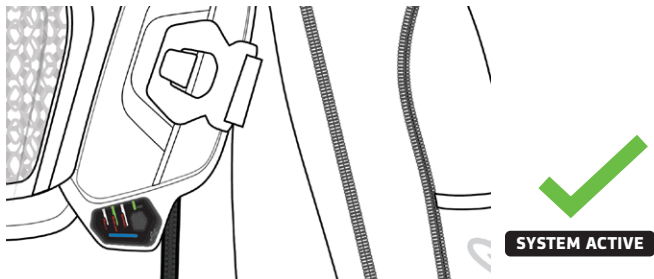

Figure 10: System active and correctly working;
2) After the LED Check phase, the System will automatically activate and the Status LED (4c) will turn SOLID BLUE (Figure 10). In this condition, the User can also check the selected Riding Mode (checking the Riding Mode LED [4d]) and the System battery level (using the Battery LED [4e]) (see Figure 6 above).